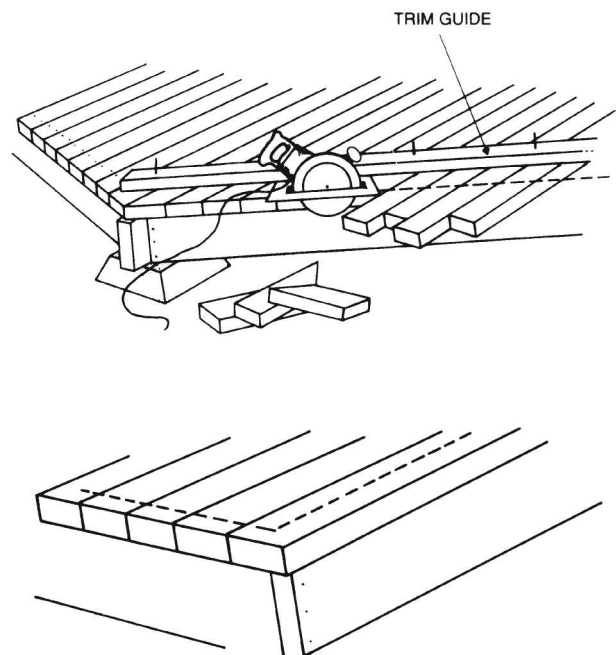
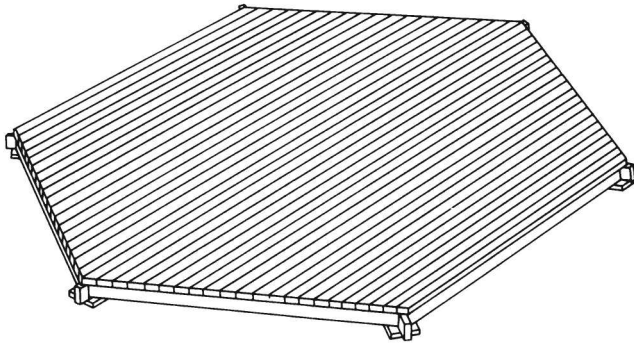

Fig. 16-102 Trimming the overhang. (Western Wood.)
Fig. 16-103 The finished hexagonal deck. (Western Wood.)
6. Tack the trim guide in place, and trim the edges, allowing a 2-inch overhang (Fig. 16-102). Smooth the edges with a wood rasp or file (Fig. 16-103).